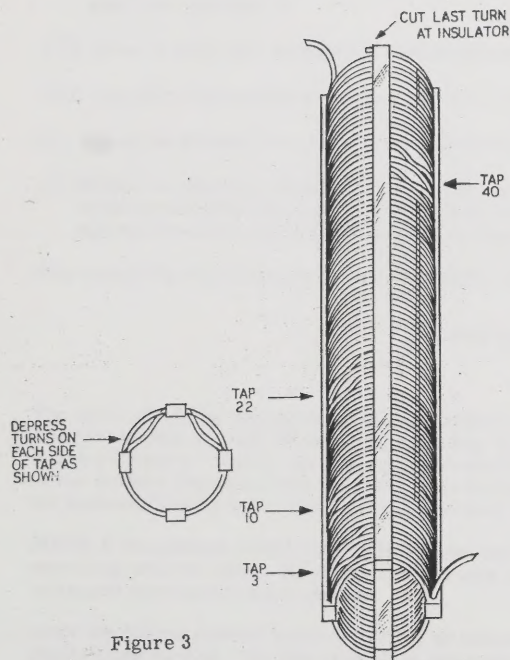

Figure 3
Note: This coil must be tapped at four places. In order to do this without shorting turns, the two turns on either side of the tapped turn are depressed to allow clearance for the tap. See Figure 3. The coil is supported from the switch by the heavy tinned wire associated with it. This requires some dexterity in mounting. The coil mounting can be more readily understood from the following figure (Figure 4) than from any description. It is suggested that you carefully study this figure.
- (X) On each end of the coil, cut the last turn just before the insulator strip at the coil ending. This leaves about 1/2" of wire free at the coil ends.
- (X) Referring to Figures 3 and 4, depress turns # 2, 4, 9, 11, 21, 23, 39 and 41, thus leaving turns # 3, 10, 22, and 40 clear for tap connectings. These taps should be made opposite one of the free ends of the coil, so that the coil may be mounted as shown in Figure 4.